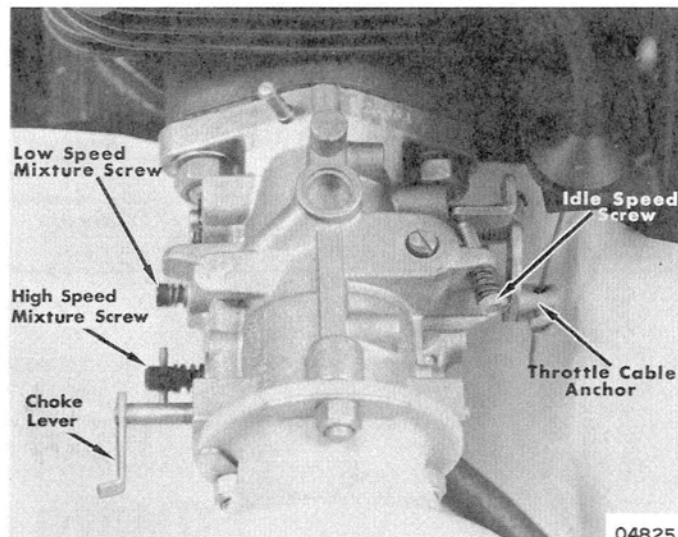

Figure 3. Carburetor Adjustments
1. Adjust idle mixture screw to obtain a smooth, steady idle and readjust idle speed screw to obtain idle speed recommended. Recheck idle mixture adjustment at recommended idle speed. (Figure 3)
1. Operate vehicle at full throttle under normal load conditions and slowly turn high speed mixture screw outward (counterclockwise) until engine starts to fire unevenly ("four-cycles") which indicates an over-rich fuel mixture. (Figure 3)